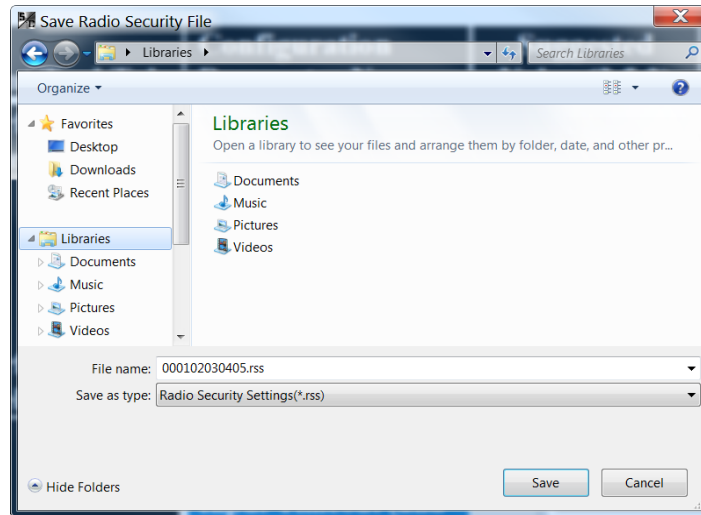

Figure 25. Save Radio Security File dialog box.
- STEP 5.** Enter a file name for the security file. See Figure 25 on page 16. Then, click the **Save** button. It's good practice to use the MAC address of the target radio as the filename or part of the filename for the security file.